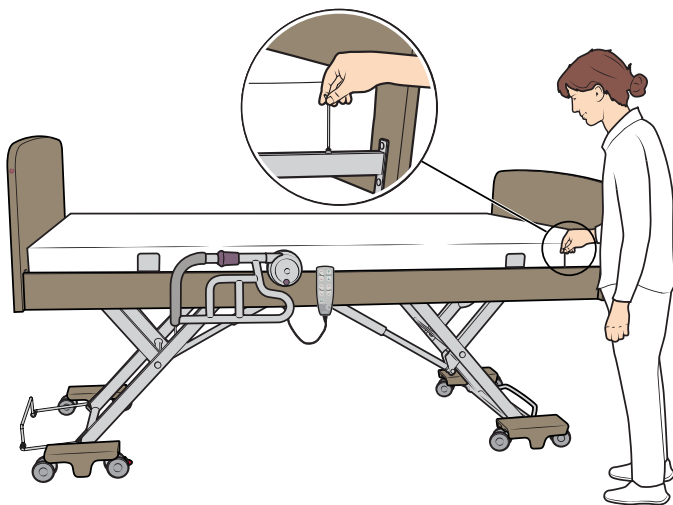

Figure 47
1. Loosen the screw on both sides of the foot end with a hex key S4. See Figure 47.